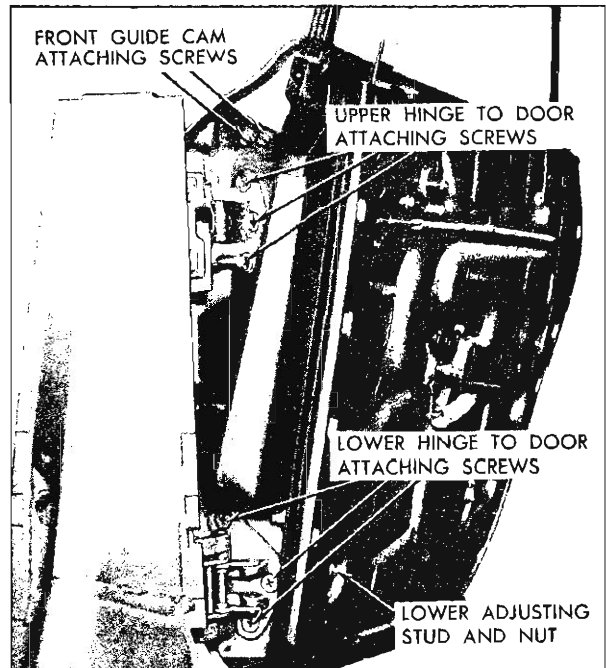

Fig. 45—Rear Door Hinge Attachments
1. For in and out or up and down adjustment, loosen hinge to door pillar attaching screws, adjust door as required and tighten screws (fig. 45).